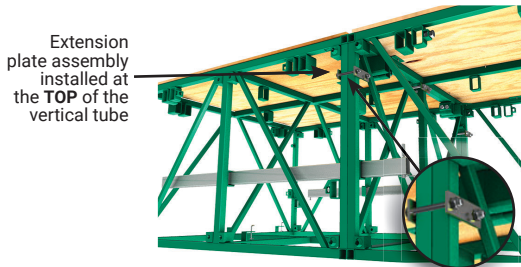

fig. 3.21
- 3- Install the first two forward extension plate assemblies at the **TOP** of each of the two vertical tubes at each end of the bridge assembly (fig. 3.21, p. 54). If using only previous generation bridges, install the third extension plate assembly on the middle vertical tube of the bridge, secure the bolt assemblies and proceed to step 5.